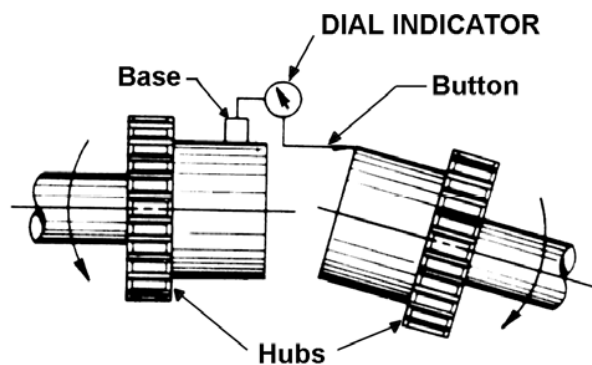

Figure 3-3: Angular Alignment Check
4. Once run-out is acceptable, reposition indicator button on machined face of driven shaft hub as shown in Figure 3-3.